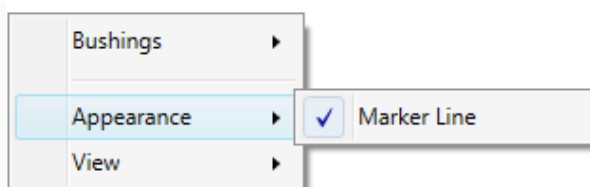

Figure 4-67: Appearance shortcut menu
- The Timeframe option offers a choice of a single PRPD view (one record) or daily view as shown in Figure 4-67.
- The Appearance option toggles the Marker Line On or Off as shown in Figure 4-67.